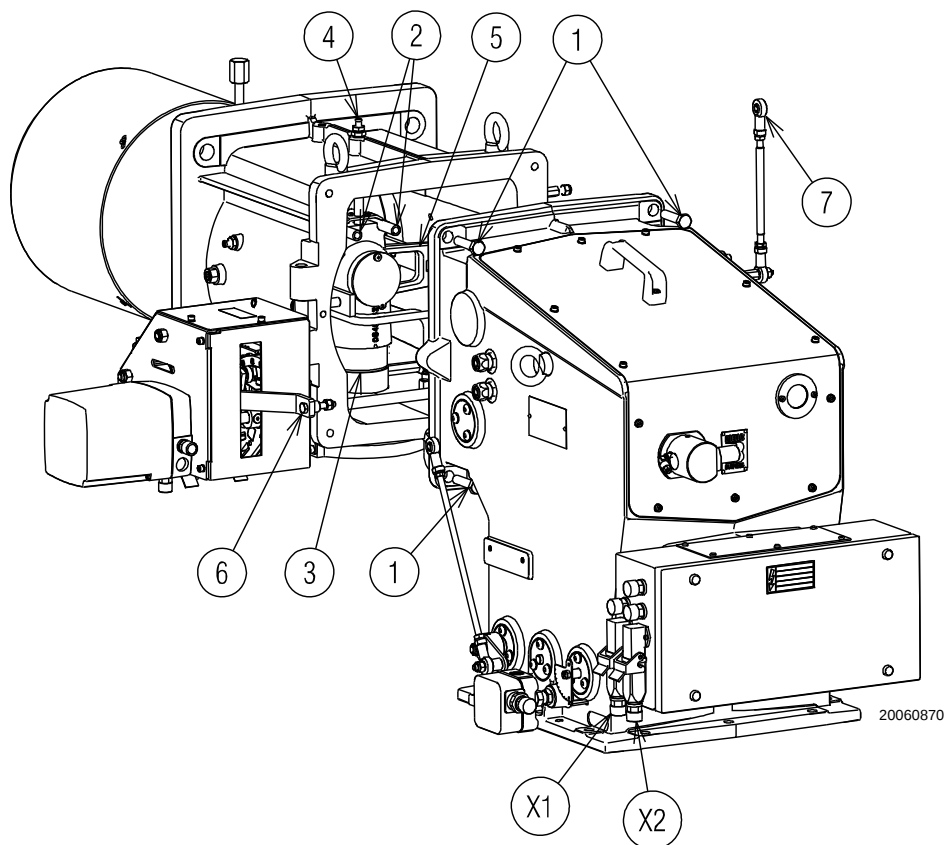

Fig. 17
- Unhook the tie-rod 6)(Fig. 17) of the head movement lever, removing the nut.